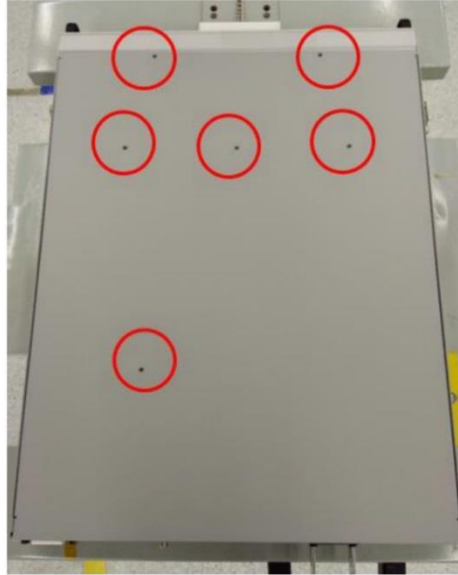

Figure 1
1. Unscrew six screws from top cover as shown in Figure 1.